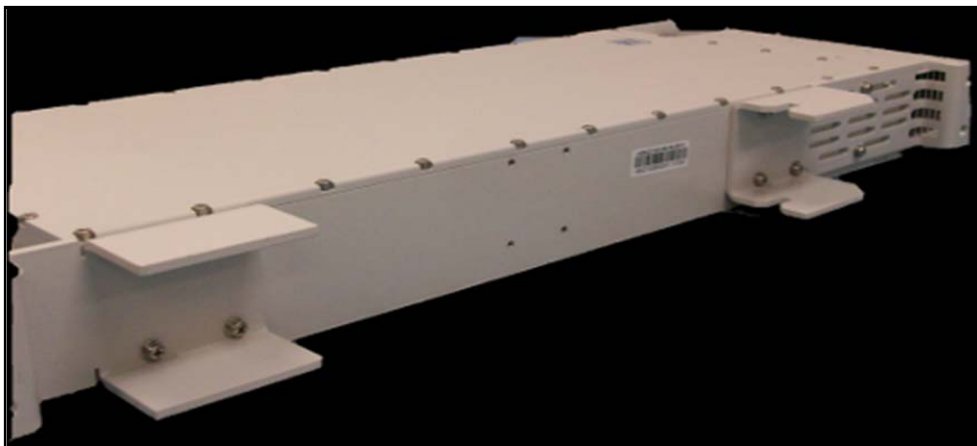

Figure 4-3. The Side Mounting Bracket to the Mounting Panel
1. Verify that the attached side mounting brackets, as shown in **Figure 4-3** are secure.